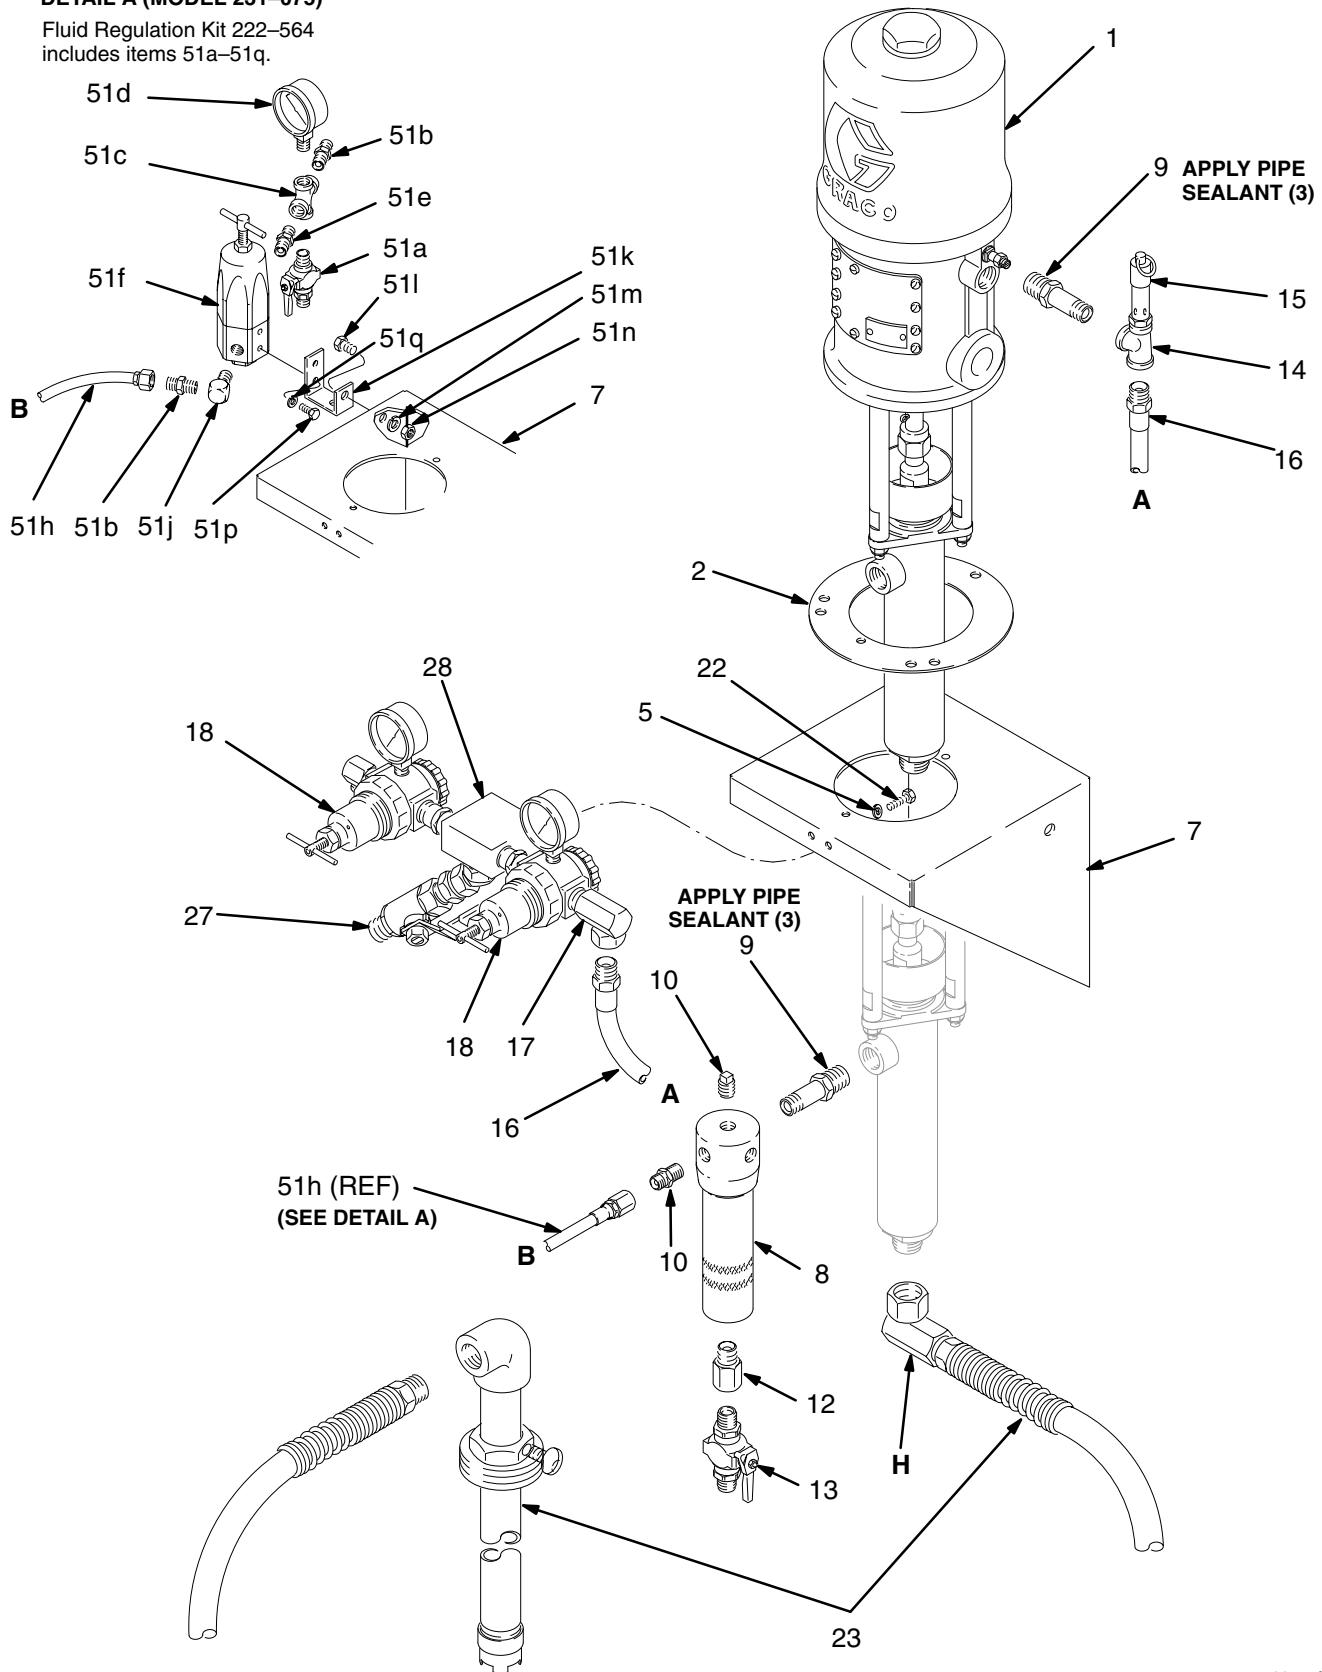

Fig. 3
Refer to Figure 3.
Assemble the fluid regulation kit (51) as shown in Detail A of Fig. 3. (Refer also to the parts list on page 20.) Install the mounting bracket (51k) on the regulator (51f) using the two screws (51p) and lockwashers (51q). Connect the fluid regulator and bracket to the side of the wall bracket (7) using the screw (51l), lockwasher (51m) and nut (51n). Connect the 22” (560 mm) hose (51h) to the outlet nipple of the fluid filter (8).
2. Attach the heater wall bracket to the heater mounting posts with the M8 x 1.25 screws and lockwashers supplied with the heater (53).
4. **If you are converting an existing pump**, remove the fluid filter (8) and long 3/8 npt nipple (9) from the pump fluid outlet. Discard the long nipple (9). See Fig. 3.
5. Install the 3/8 npt nipple (35*) in the heater outlet. Screw the fluid filter (8) inlet onto this nipple. Unscrew the 1/4 npt nipple (11) from the filter outlet. Screw the elbow (47*) into the filter outlet, and screw the 1/4 npt nipple (11) into the elbow.
1. **If you are converting an existing pump**, remove the suction kit (23) from the pump's fluid intake. See Fig. 3.